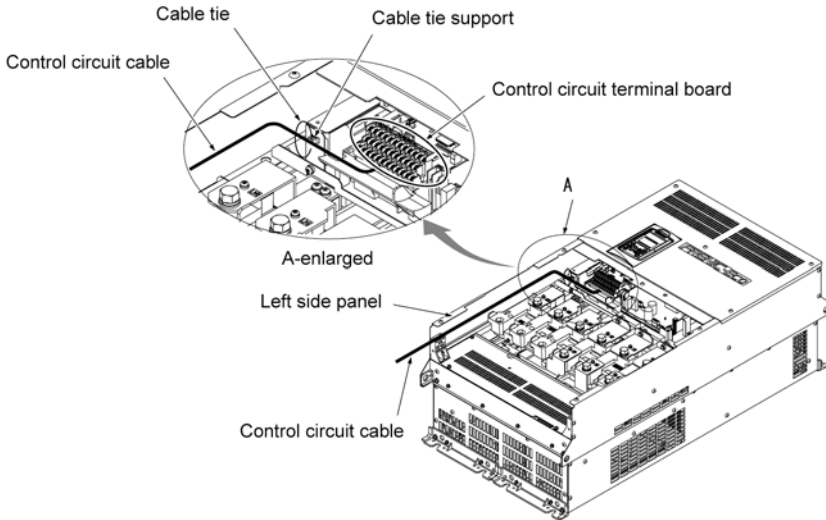

Figure 2.28 Routing and Fastening the Control Circuit Cable
- ① Route the control circuit cable in keeping with the left side panel of the inverter as shown in Figure 2.28.
- ② Fasten the control circuit cable to the cable tie support with a cable tie (insulation lock) as shown in Figure 2.28.